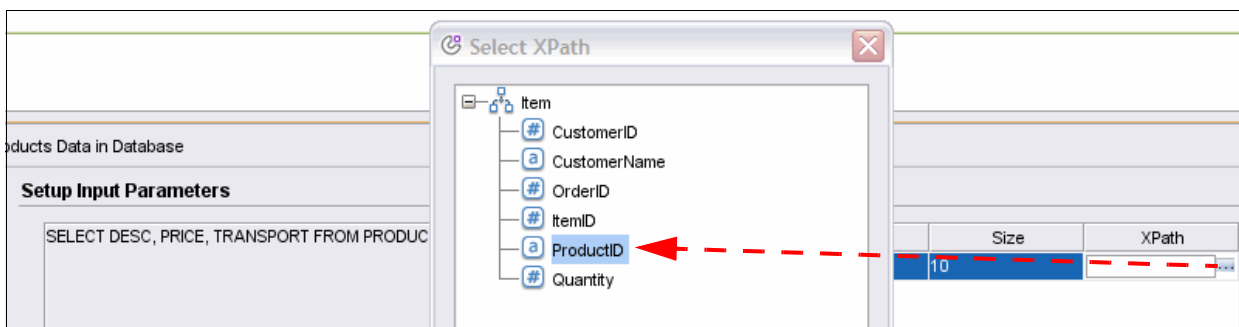

Figure 12-55 Selecting ProductID from a XPath selection
- c. A Select XPath window opens, as shown in Figure 12-55.